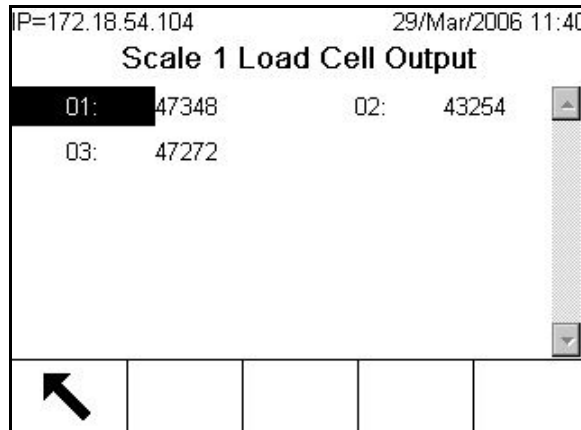

Figure 3-19: Load Cell Output Screen
- Load Cell Output—Displays the current load cell output (active weight) for the scale (Figure 3-19). The numbers in the scale below feature load cell addresses for each output. For digital load cells, individual cell counts will be displayed. Individual cell counts are the raw output of the load cells, which the indicator translates into weight by calculation, using information it acquires through the calibration process.